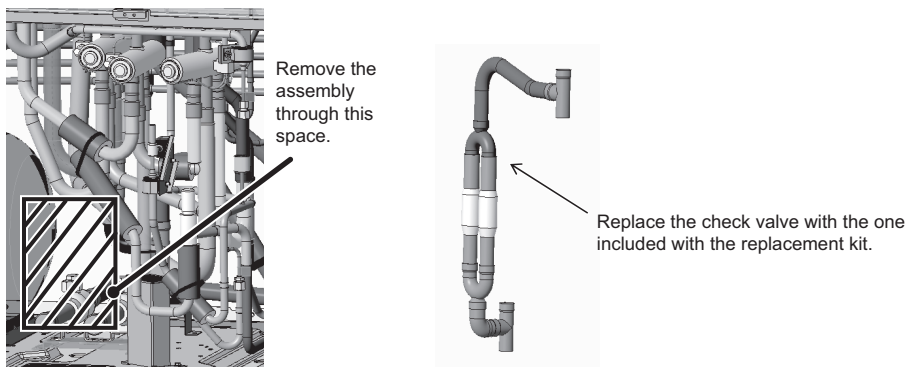

Figure 6
- (5) Remove the check valve assembly (CV2a/b) from the area indicated in Figure 6.